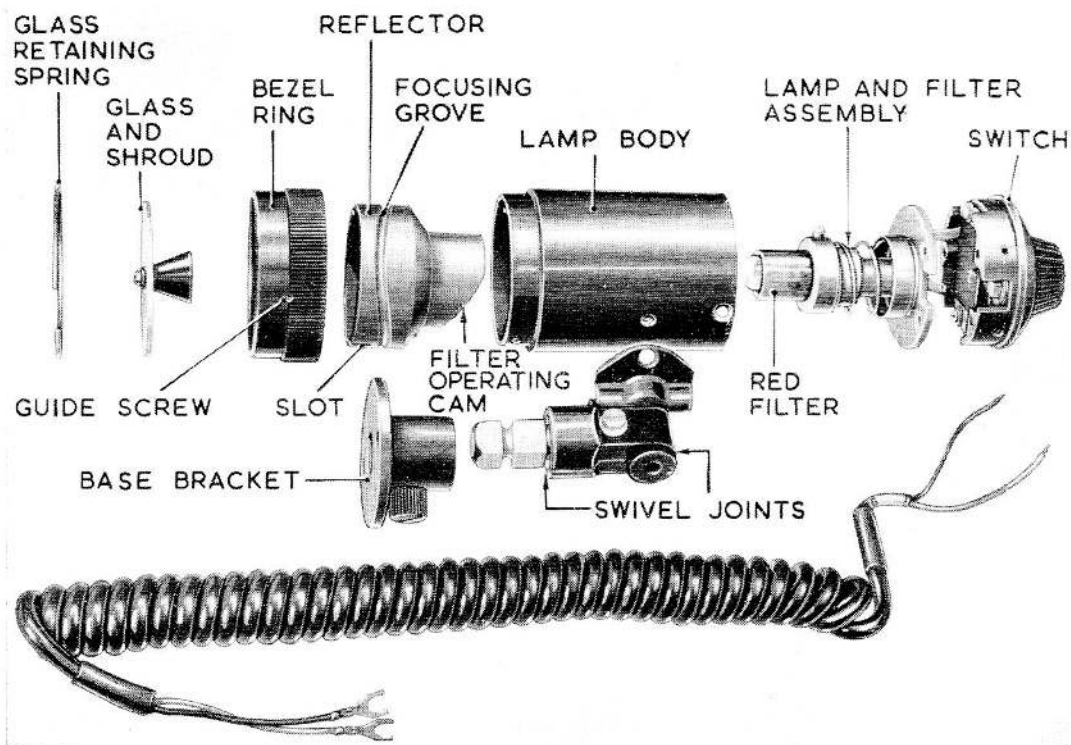
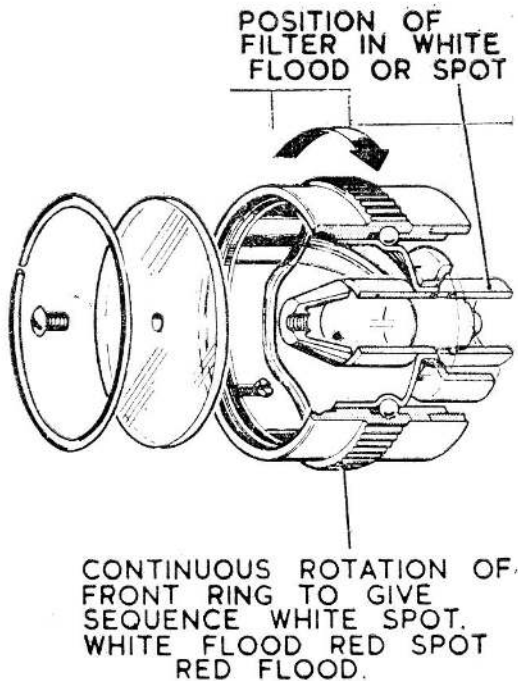

Fig. 2. Exploded view
Fig. 3. Sectional drawing of reflector and front ring
2. The reflector shown in fig. 2 fits into the lamp body and is positioned by two ball bearings set 180° apart, both of which locate in the focusing groove. A groove cut on the inside of the bezel forms the outside housing of the two bearings. Two guide screws set opposite each other in the bezel engage in corresponding slots in the reflector. A sectional drawing in Fig. 3 shows the assembly of the above items. Rotation of the bezel ring turns the reflector, which at the same time is thereby given a lateral movement. The amount of movement and direction depending upon the relative position of the focusing groove with that of the ball bearings.
7. The lamp is switched on by turning the control knob. Further turning of the knob controls the brightness. Pressure on the knob and in any position gives full brilliance. By rotating the bezel (fig. 3) the following lighting conditions are obtained in sequence: white spot white flood, red spot and red flood.